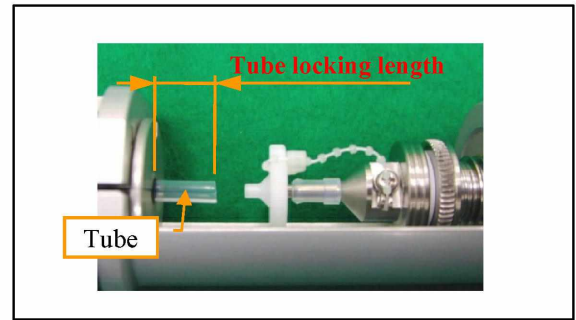

Fig. 64 - Tube locking length
- Open the clamp and install the tube with union nut passing through. Lock the tube with the clamp at the tube locking length. (see Fig. 64 and Table 26)